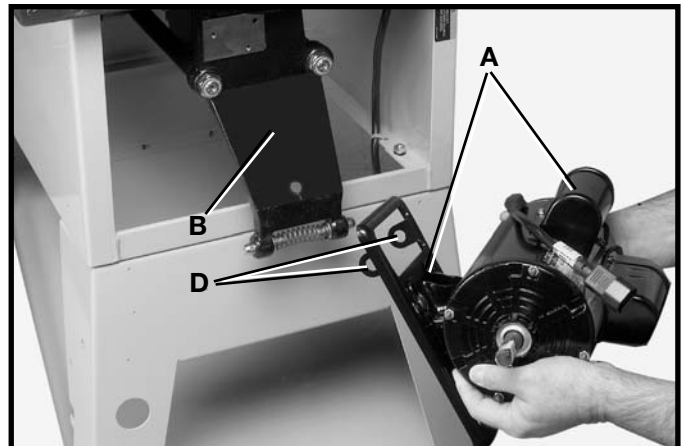
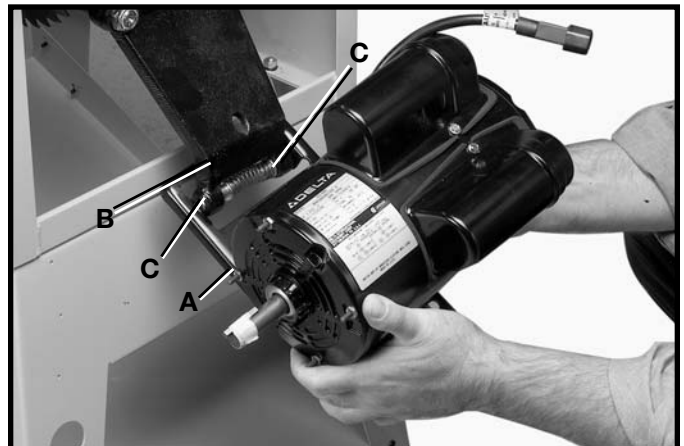

Fig. 13
Fig. 14
1. Position motor and motor mounting plate (A) Fig. 13, below bracket (B) to allow bracket arm to slide through large opening in motor mounting plate (A).
2. Depress one plunger (C) Fig. 14 and connect one side of motor mounting plate (A) to bracket (B). Then depress other plunger (C) and rotate motor mounting plate (A) until both plungers are engaged in holes (D) Fig. 13.